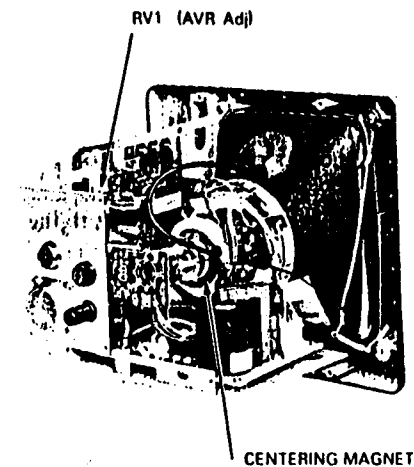

FIG. 5-3 POWER SUPPLY ADJUSTMENT, CENTERING ADJUSTMENT
7) Power Supply voltage adjustment on PC503 (See Fig. 5-3)
8) Beam centering adjustment on CRT (See Fig. 5-3)